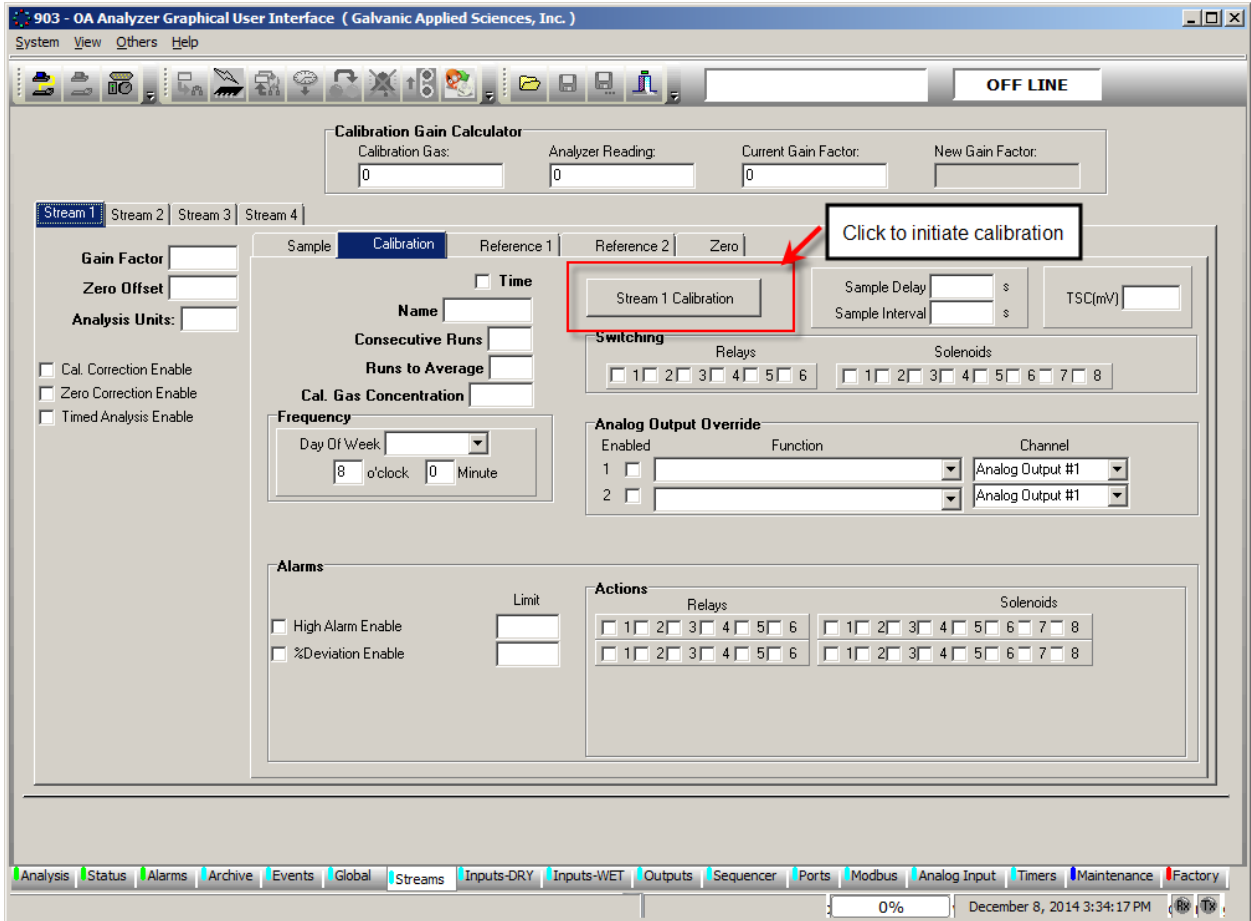

Figure 6-12: Calibration Tab
- a) Initiate an Auto Calibration run, either from the GUI or from the keypad. The Auto Calibration can be initiated from the GUI by pressing the *Stream 1 Calibration* button as shown in Figure 6-12. The Auto Calibration can be initiated from the keypad by selecting the stream to be calibrated, and scrolling to CAL. The CAL entry will indicate that the status is OFF. Press the EDIT key on the keypad and press the ENTER key to toggle the value to ON.